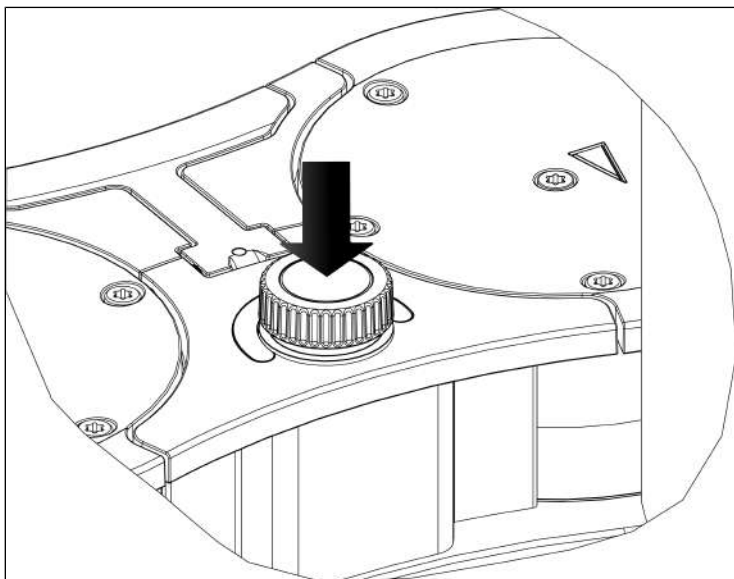

Fig. 9: Start and stop pumping operation of the vacuum system with rotary/push knob
- Start the pumping operation of the vacuum system by pressing the rotary/push button (see Fig. 9).